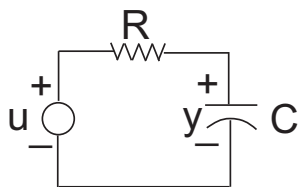

Figure 3: RC Circuit for Prelab Part 2 and Lab Part 2.
- For the circuit shown in Figure 3:
- (a) Implement a Simulink "all integrator" block diagram (similar to that shown in Figure 1) for the RC circuit of Figure 3. Enter the values of a, b, and c by double clicking the gain icons.